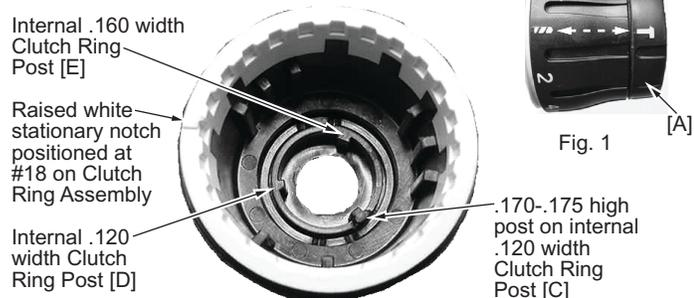

Fig. 2
- Washer [A] visible above hammer shift collar, (fig. 2).
Rotate shift collar left or right by hand until it drops into position shown in (fig. 2). The washer must be visible, and the .160 wide shift collar notch [1] must be in-line or slightly left of top 12 o'clock position, as viewed from the front of the gearbox.
- Turn clutch ring assembly to position shown in fig. 2 to view internal clutch ring posts [C,D,E] for correct position prior to assembling clutch ring to gearbox.